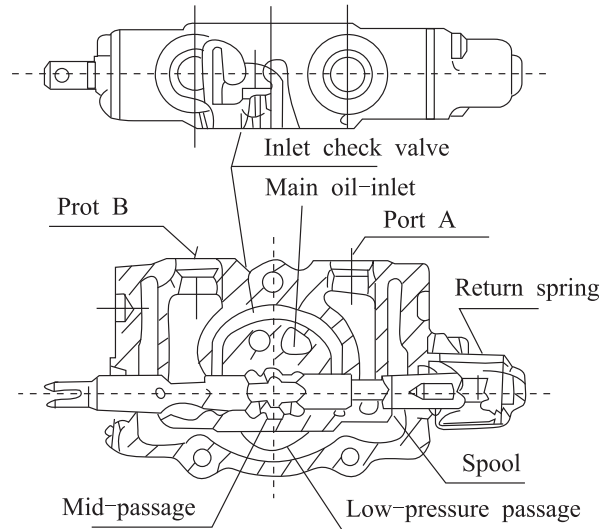

Fig. 7-2
(1) Neutral position (See Fig. 7-2)